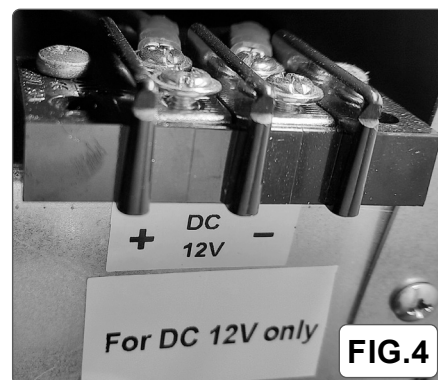

FIG.4
- The terminal block is located at the back of the unit, labelled as shown in fig.4.